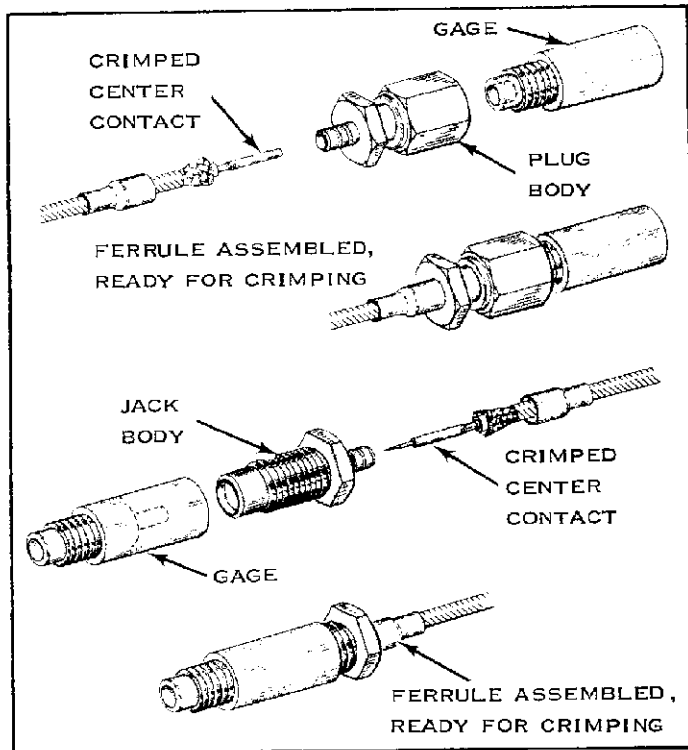

FIG. 8
- (b) Screw Gage onto Connector Body. See Figure 8.